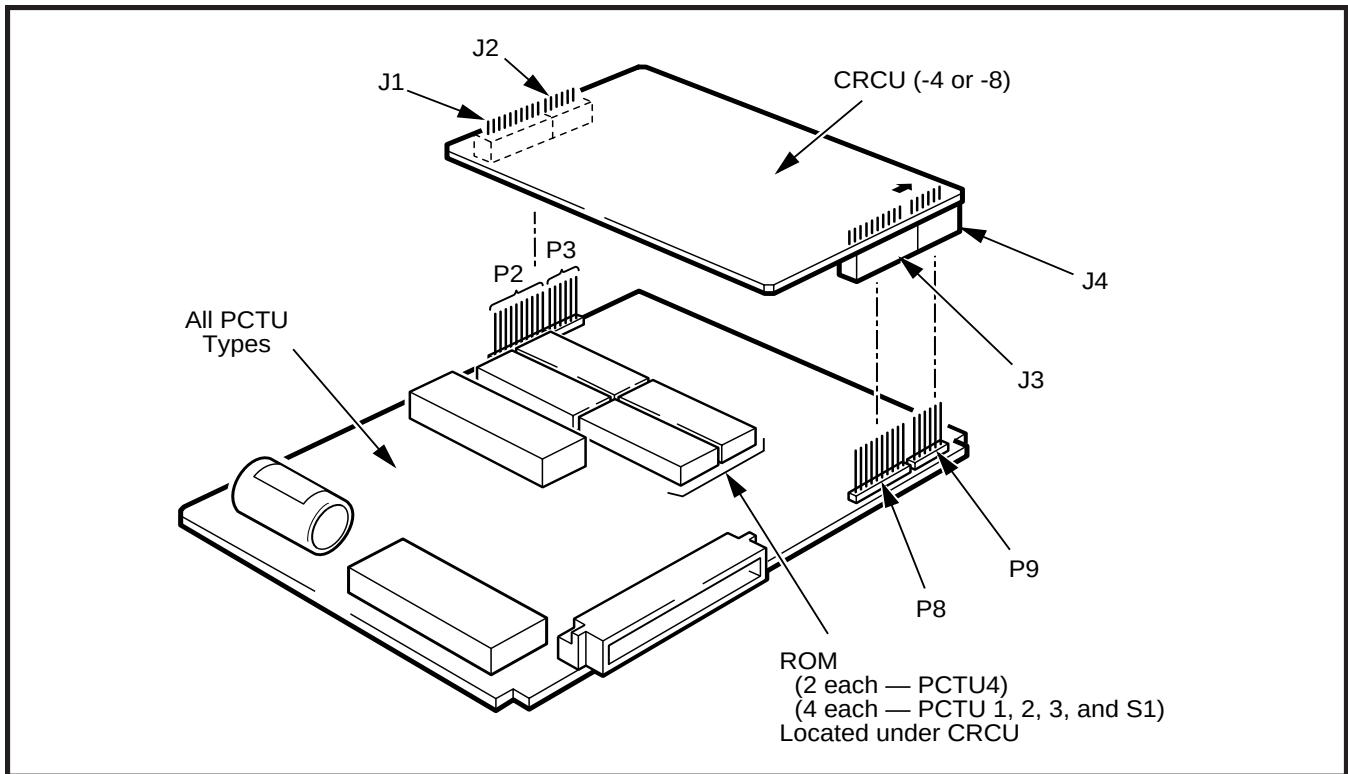

FIGURE 6-3
- 2) Mate CRCU connectors **J1**, **J2**, **J3**, and **J4** with PCTU connectors **P2**, **P3**, **P8**, and **P9** (Figure 6-3).